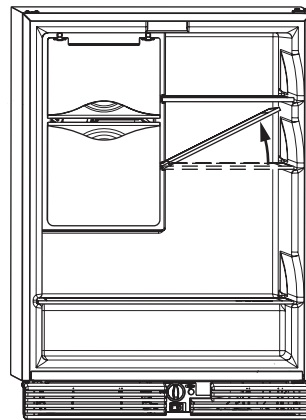

**Figure 36**
- Place door on lower hinge pin. Align flat edge of top hinge with outer edge of unit and fasten upper hinge to unit (four screws). Partially tighten screws (**Figure 36**).